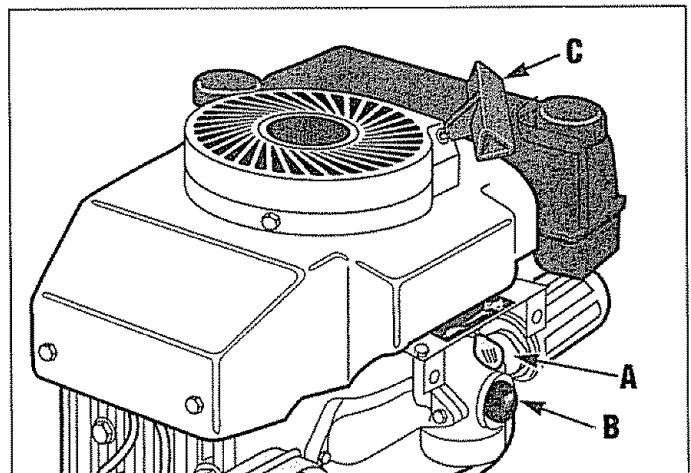

Figure 22: Starting and stopping the engine.
2. Move the Engine Control Lever (A, Figure 22) all the way to the **right** (toward rabbit position) until it stops.
3. When starting a cold engine, **firmly** push primer (B, Figure 22) five (5) times before trying to start the engine. (This step is not required when starting an engine which has already run for a few minutes.)
5. Look behind you to make sure there are no obstacles in the way. Grasp the Starter Rope Handle (C) and pull handle quickly. Do not allow starter rope to snap back.